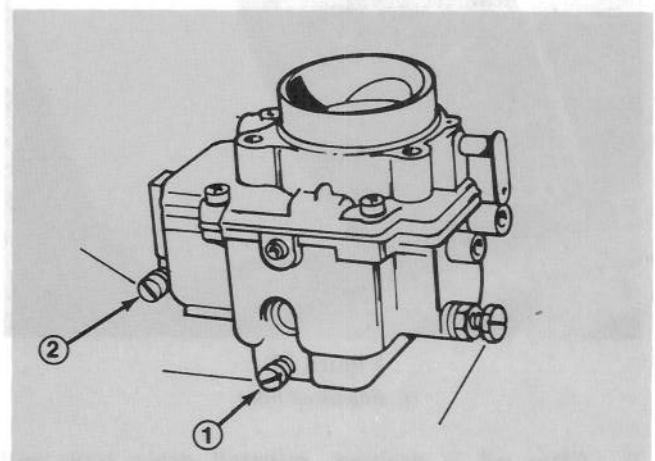

Figure 61
1. Idle Mixture Screw (Fig. 61) — Close idle mixture screw by gently rotating it clockwise.